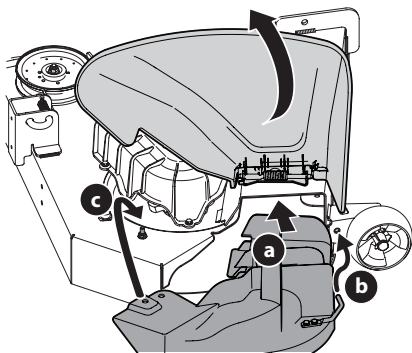

Fig. 4
2. To install the mulch plug, pivot the discharge chute upward. Refer to Fig. 4. Insert the mulch plug into the discharge chute opening.